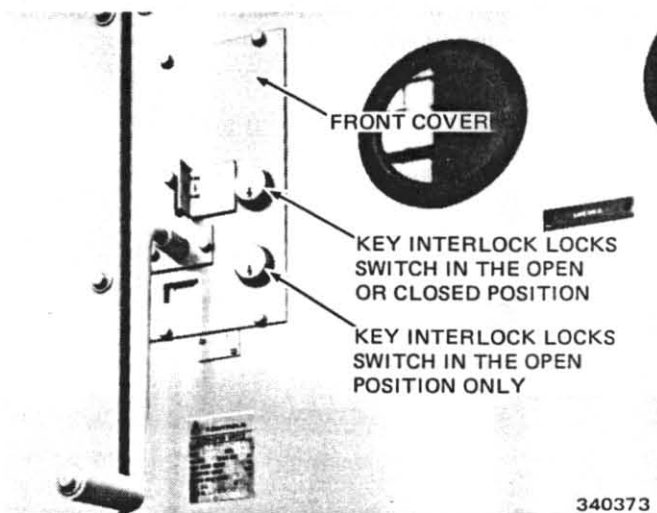

Fig. 20 - Key interlocks on front plate.
1. See that all parts operate freely. The trip lever will move freely up and down when properly adjusted. If the lever does not move freely, check to make sure that the charging nut is in full charged or full discharged position, that the fuse door is properly closed or key interlocks (Fig. 20) are conditioned to permit switch operation. The charging handle will move easily to engage the charging screw shaft, provided the trip lever is up in the reset position. The fuse door interlock will prevent reset of the trip lever which, in turn, will prevent charging of the springs.
Key interlocks (Fig. 20) can be supplied when specified. The lower lock on the front plate retains the key when the switch is in the closed position. With the switch locked in the open position, the key can be removed and then used to unlock the door leading to the fuses. With this door open, the key is retained in the lock, thus preventing the switch from being inadvertently closed.